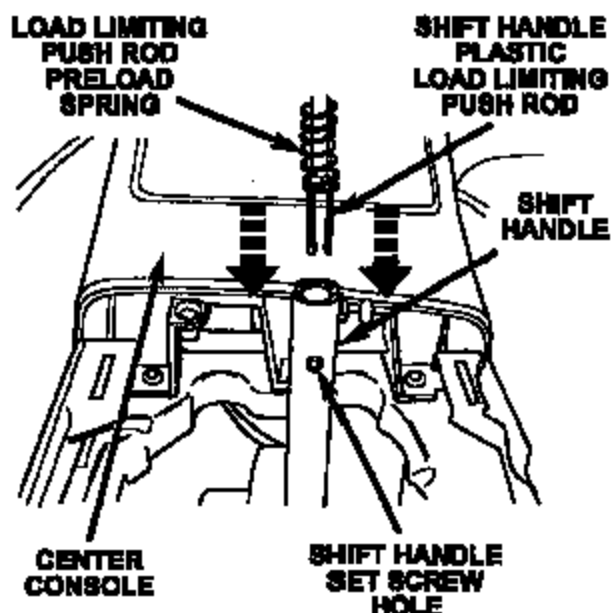

Figure 6 – LH Model with Cobra Handle Shown
15. Orient the new load limiting push rod so that the forks are parallel with the center console (Figure 6). Insert the load limiting push rod, with the preload spring in position, into the shift lever. Be sure that the push rod is fully seated.